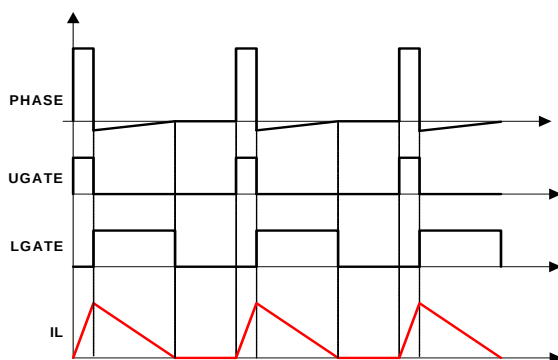

FIGURE 34. DIODE EMULATION
The R3 modulator can operate in Diode Emulation (DE) mode to increase light load efficiency. In DE mode, the low-side MOSFET conducts when the current is flowing from source-to-drain and does not allow reverse current, therefore emulating a diode. As shown in Figure 34, when LGATE is on, the low-side MOSFET carries current, which creates negative voltage on the phase node due to the voltage drop across the ON-resistance. The IC monitors the current by monitoring the phase node voltage. It turns off LGATE when the phase node voltage reaches zero to prevent the inductor current from reversing the direction and creating unnecessary power loss.
If the load current is light enough, as Figure 34 shows, the inductor current reaches zero and stays there before the next phase node pulse, and the regulator is in Discontinuous Conduction Mode (DCM). If the load current is heavy enough, the inductor current never reaches 0A and the regulator is in CCM although the controller is in DE mode.